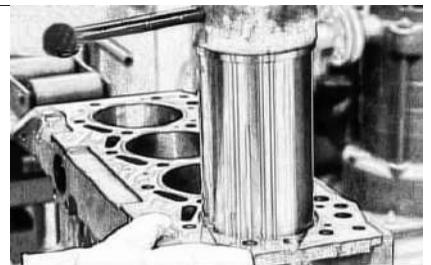

Fig 5-8 Dry Sleeves Installation
1.8 For dry sleeves, coat some oil on outside wall, push it into block, then may use woodblock on sleeves, knock woodblock to let sleeves into it position on block (see Fig 5-8).